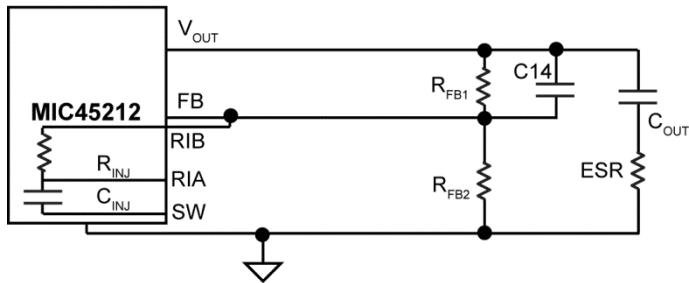

Figure 10. Internal Ripple Injection at FB via RIB Pin
2. Virtually no or inadequate ripple at the FB pin voltage due to the very-low ESR of the output capacitors, such is the case with ceramic output capacitor. In this case, the  $V_{FB}$  ripple waveform needs to be generated by injecting suitable signal. MIC45212 has provisions to enable an internal series RC injection network,  $R_{INJ}$  and  $C_{INJ}$  as shown in Figure 10 by connecting RIB to FB pin. This network injects a square-wave current waveform into FB pin, which by means of integration across the capacitor (C14) generates an appropriate sawtooth FB ripple waveform.